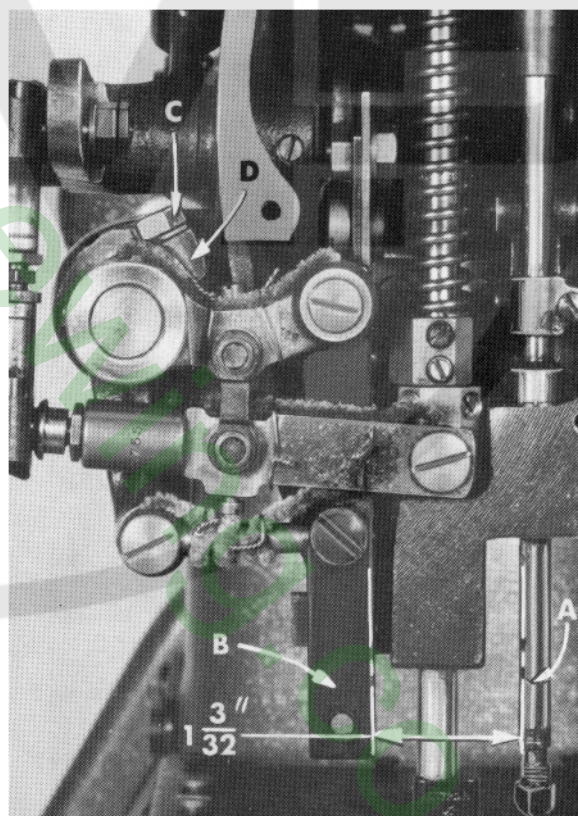

Fig. 8
As the needle bar just begins to rise from the bottom of its stroke, the distance between the rear of the needle bar (A, Fig.8) and the front of the upper feed bar (B) should be $1 \frac{3}{32}"$ (Fig. 8). Adjustment can be made by loosening screw (C) in the upper feed driving lever (D) and moving it forward or rearward as required and retighten screw (C).